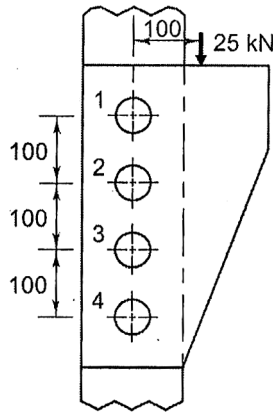

Fig. Q1c
- c) A bracket, attached to a vertical column by means of four identical rivets, is subjected to an eccentric force of 25 kN as shown in Fig. Q1c. Determine the diameter of rivets, if the permissible shear stress is 60 N/mm^2 . [10]